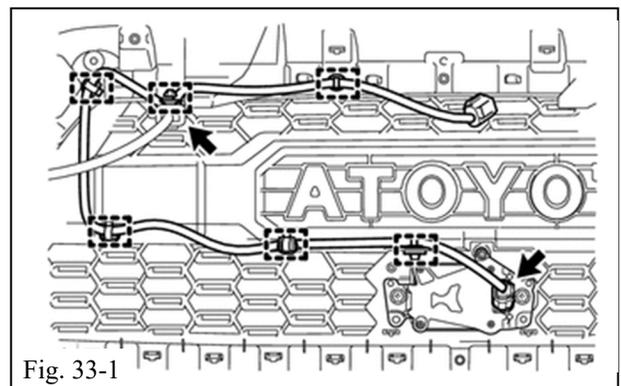

Fig. 33-1
- (a) Engage the 6 clamps to install the television camera sub-wire jumper harness. (Fig. 33-1)